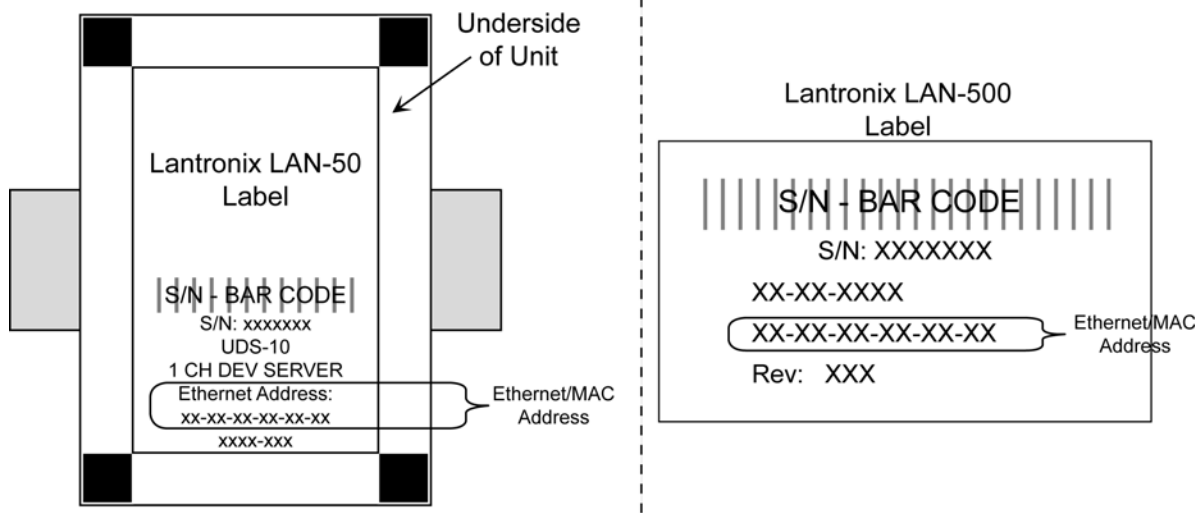
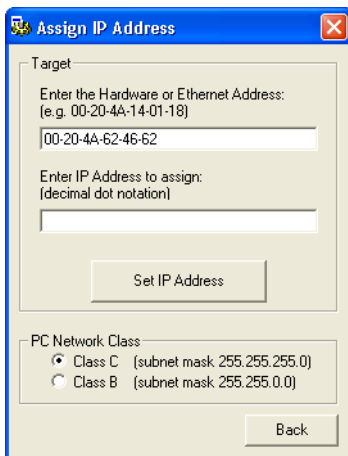

Figure 4: Locating the Ethernet/MAC Address
Figure 20: Enter the Ethernet Address
- On the LAN-50, the Ethernet/MAC address is found on the underside of the unit (see Figure 4).
- On the LAN-500, the Ethernet/MAC address is found on the label placed on the top of the unit (see Figure 4).
3. Click in the “Enter the Hardware or Ethernet Address” field (see Figure 20 on page 16) and enter the Ethernet Address (also known as the MAC Address – see Figure 4 on page 7 for the address location).